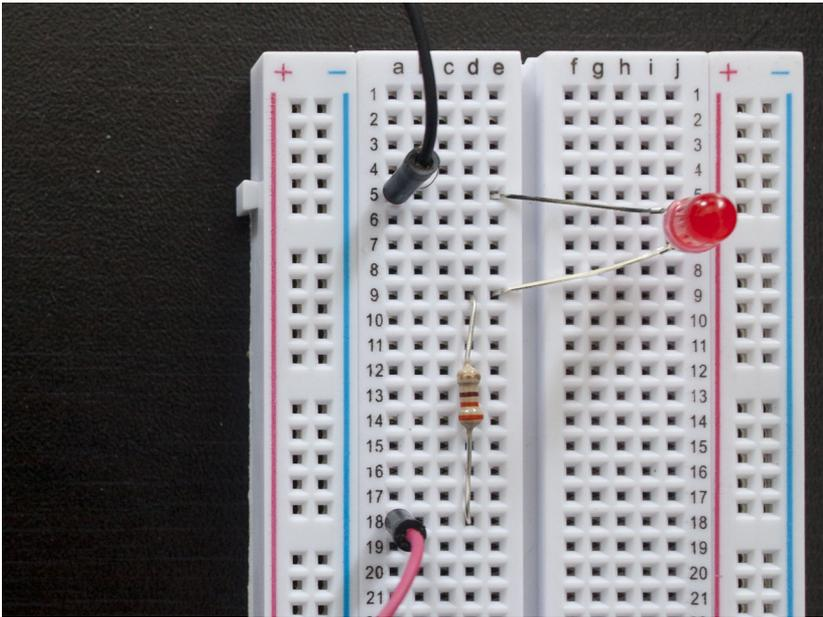

Figure 3-6. A closer look at the breadboard layout
6. Insert the resistor between the breadboard row connected to pin 13 and the anode of the LED, completing the circuit. Your circuit should look something like figure Figure 3-5 (take a closer look in Figure 3-6).